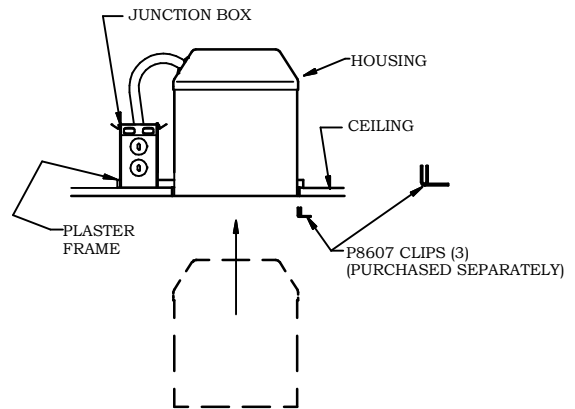

FIGURE 6
- 5.- TURN PLASTER FRAME RIGHT-SIDE-UP AND SEAT LIP OF FRAME OPENING INTO HOLE IN CEILING (SEE FIGURE 6).
- 6.- INSTALL THREE (3) PROGRESS P8607 CLIPS (PURCHASED SEPARATELY) ON LIP OF FRAME OPENING, TO KEEP FRAME IN PLACE. (SEE FIGURE 6)
- 7.- SLIDE HOUSING BACK INTO PLASTER FRAME. ADJUST TO CEILING HEIGHT AND SECURE IN PLACE WITH THREE (3) SHEET METAL SCREWS.